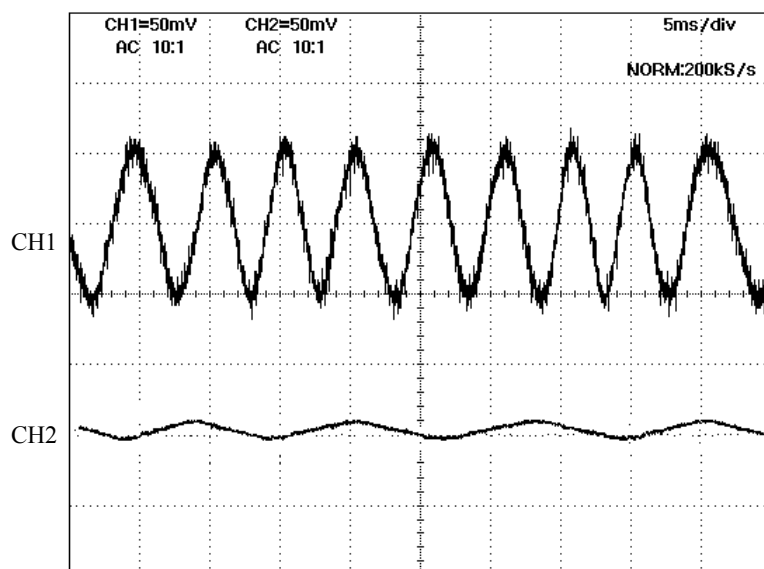

Fig.1
- As shown in Fig. 1, if the amplitude of only either CH1 or CH2 is small, one of the 2 screws (#218) may be loosened, so check for it. If this is not the case, the MR head may malfunction, so replace the GMR sensor FPC unit and make a readjustment.